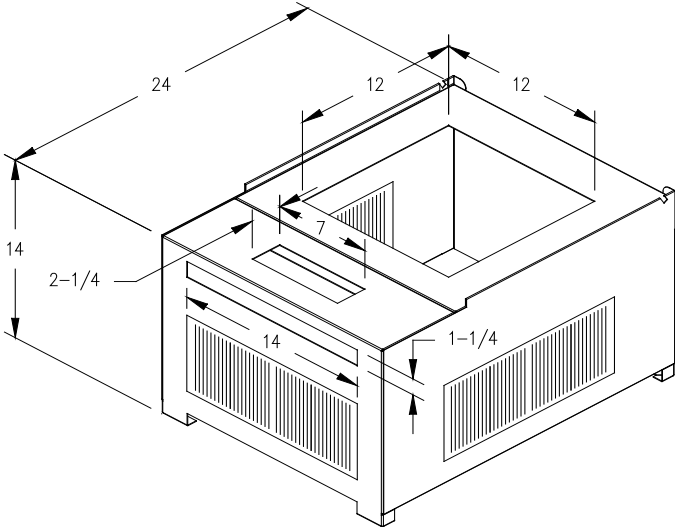

Figure 1C.
3. This furnace may be installed on a combustible floor when utilizing either the No. 70 counterflow floor base or CE113S / CE213T coil cabinet for below the floor duct systems, or the cottage base for floor level air distribution. See Figure 1A for description of Combustible Floor Base and Figure 1C for Cottage Base.
The 01COT BASE cottage base (Figure 1C) is required for a freestanding cottage base installation. The cottage base allows the two sides and rear to have an 8" x 12" register installed. **IMPORTANT: All joints and seams of supply ducts must be sealed with a sealing method suitable to the application conditions and temperatures (I.E. High temperature silicone and/or aluminum tape).** Refer to assembly and installation instructions included with cottage base for additional information.